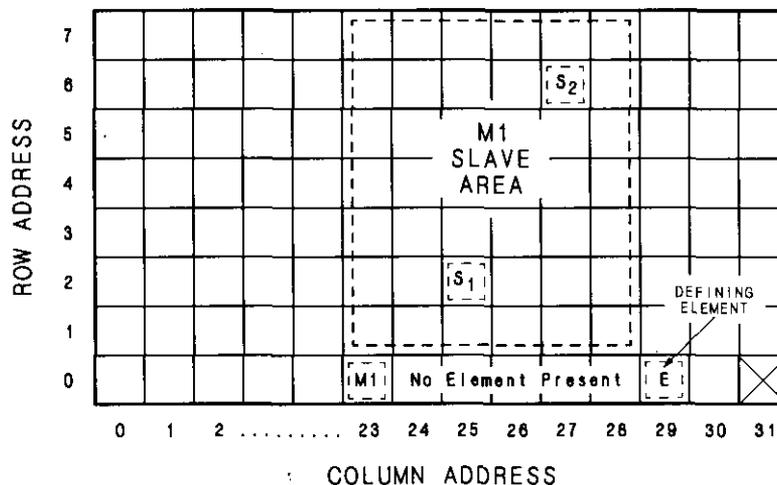
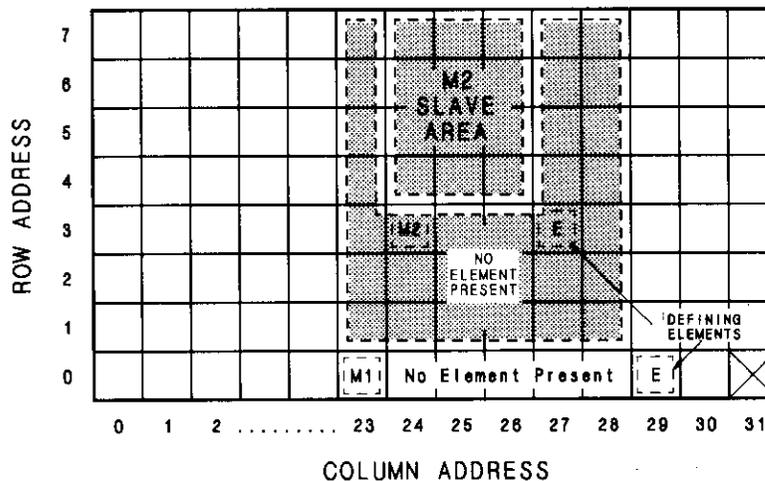

Figure 2-2. Master/Slave Address Matrix
Figure 2-3. Sub-Master Address Matrix
Modules controlled by another module are called slaves. To be controlled by a master, slave modules must be addressed within the slave area defined by that master. Refer to Figure 2-2 for examples of modules in a slave area. For proper system function and communication, slaves must be addressed within the boundaries set by the defining elements.
A sub-master is an element that has the capability of functioning as both master and slave at the same time. Sub-masters are located at a row address other than 0, are controlled by another master, and control a slave area of their own. For example, Figure 2-3 illustrates sub-master M2 at address 3,24. M2 is a slave to M1. M2 also has a slave area that lies within the slave area of M1. M1 does not communicate directly with M2 slaves; it can only communicate with them through M2.
- The column address of a defining element must be greater than the column address of the master. In Figure 2-2, for the master addressed in column 23, the defining element must be addressed in column 24 or above. In Figure 2-3, for M2 addressed in column 24, the defining element must be addressed in column 25 or above.
- The row address of a defining element must be equal to or less than the row address of a master. In Figure 2-2, the address of the master at row 0 has a defining element addressed at row 0. Figure 2-3 shows two masters, M1 and M2. The defining element for M1 is located at row 0 and the defining element for M2 is located at row 3.
- The column address of the master is the left-hand boundary of the slave area. In Figure 2-2, the left-hand boundary is column 23.
- The right-hand boundary of the slave area is equal to one less than the column address of the defining element. For the master at column 23 in Figure 2-2, the right-hand boundary is at column 28. If there is no defining element, the right-hand boundary of the slave area extends through to column 31.
- The lower boundary of the slave area is one row greater than the row address of the master. For the master in row 0 in Figure 2-2, the lower boundary is at row 1.
If a new module is added to the area labeled "No Element Present" in Figure 2-2, this module becomes the new defining element and the right-hand boundary moves toward the master.